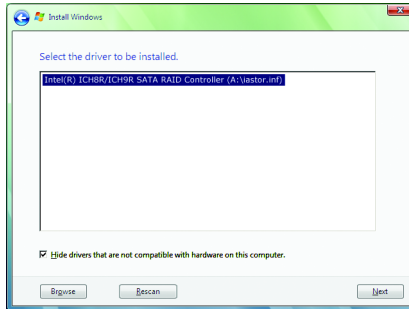

Figure 10
When a screen as shown in Figure 10 appears, select **Intel(R) ICH8R/ICH9R SATA RAID Controller** (Note) and press **Next**.
(Note) The item displayed in Figure 10 will be shown as **Intel(R) ICH9 SATA AHCI Controller** when the SATA controllers are set to AHCI mode.